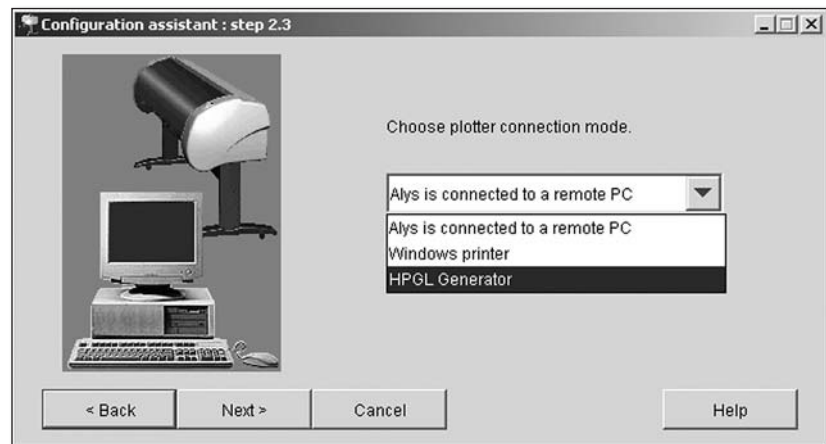

Figure 14. Lectra™ connection mode.
2. When the **Configuration Assistant** reaches **Step 2**, Choose *HPGL Generator* from the list. (*Figure 14*).